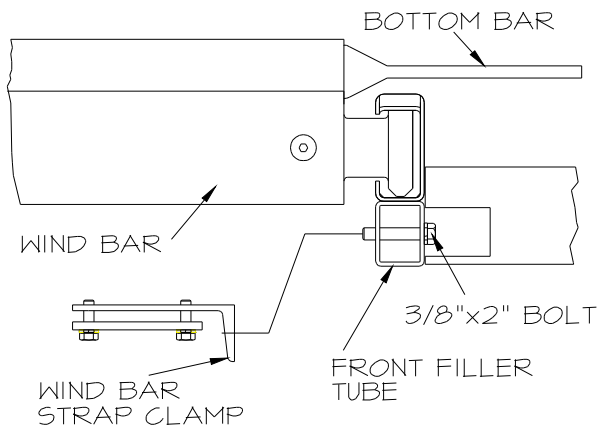

FIG. 12C
- Attach Wind Bar Strap Clamps to front of Uprights (Figure 12c).**